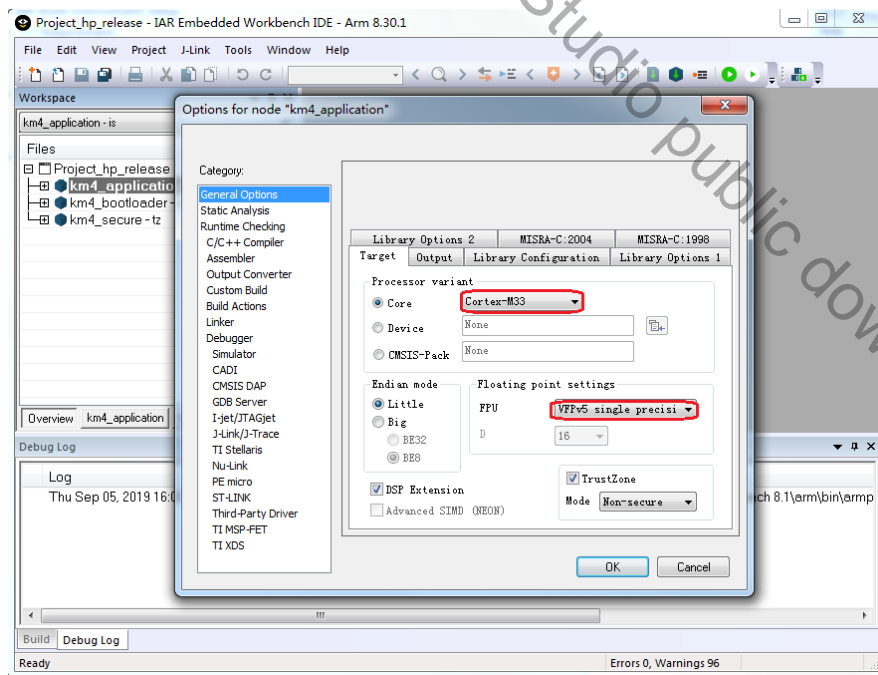

Fig 6-9 KM4 processor options
- (1) Open project\realtek_amebaD_va0_example\EWARM-RELEASE\Project_hp_release.eww.
- (2) Refer to 6.3.1 and choose the build configurations for each project according to your application.
- (3) Click **Project > Options, General Options > Target > Processor Variant > Core**, verify the CPU configurations according to Fig 6-9.